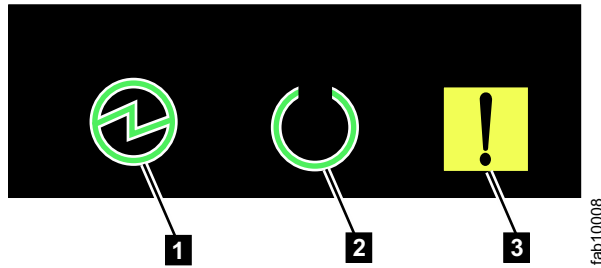

Figure 43. Node canister LEDs
5. Check the LEDs on each node canister in the control enclosure, as displayed in Figure 43.